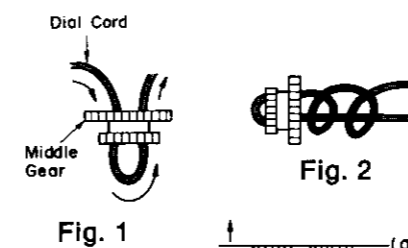

Fig. 1
1. Tie one end of the dial cord to the middle gear, and tie the other end of the cord to the spring (see Figs. 1, 2, and 4).